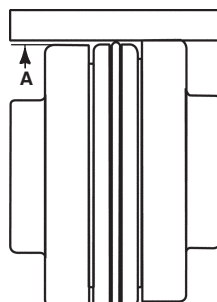

Figure 2-3
2. Measure the maximum offset (A), Figure 2-3, at various points around the periphery of the coupling. DO NOT rotate the coupling.
To check the PARALLEL alignment: (Refer to Figure 2-3)